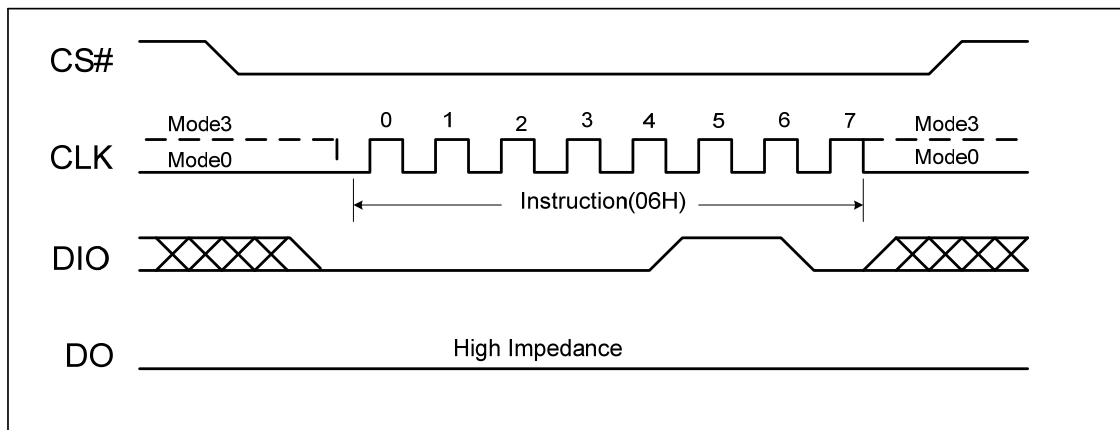

Figure 7, Write Enable Instruction Sequence Diagram
Instructions vary in length from a single byte to several bytes and may be followed by address bytes, data bytes, dummy bytes (don't care), and in some cases, a combination. Instructions are completed with the rising edge of edge CS#. Clock relative timing diagrams for each instruction are included in figures 7 through 22. All read instructions can be completed after any clocked bit. However, all instructions that Write, Program or Erase must complete on a byte boundary (CS driven high after a full 8-bits have been clocked) otherwise the instruction will be terminated. This feature further protects the device from inadvertent writes. Additionally, while the memory is being programmed or erased, or when the Status Register is being written, all instructions except for Read Status Register will be ignored until the program or erase cycle has completed.
The Write Enable instruction (Figure 7) sets the Write Enable Latch (WEL) bit in the Status Register to a 1. The WEL bit must be set prior to every Page Program, Sector Erase, Block Erase, Chip Erase and Write Status Register instruction. The Write Enable instruction is entered by driving CS# low, shifting the instruction code “06h” into the Data Input (DI) pin on the rising edge of CLK, and then driving CS# high.